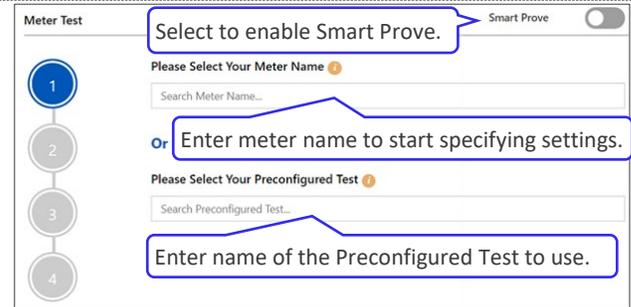

Figure 34: Select Meter Name/Preconfigured Test screen
3. On the Step 1 - Select Meter Name/Preconfigured Test screen (Figure 34), enter text in the appropriate field or enable Smart Prove: